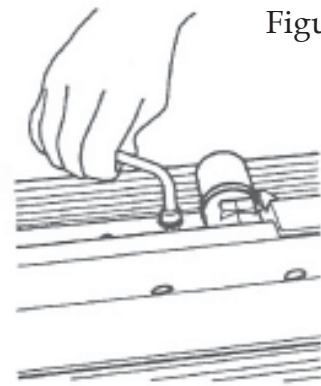

Figure D-58
- After the fence boards are parallel with each other, tighten the shaper fence's socket head cap screws, as shown in Figure D-58.